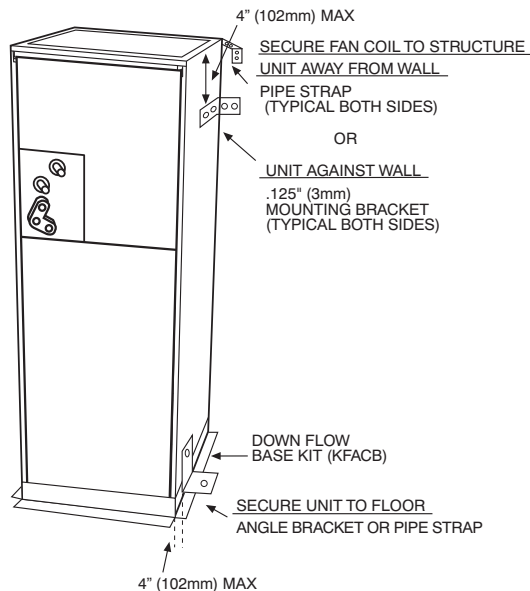

Fig. 8 – Mobile Home or Manufactured Housing Applications
- b. If fan coil is against wall, secure fan coil to wall stud using 1/8-in (3 mm) thick right-angle brackets. Attach brackets to fan coil using no. 10 self-tapping screws and to wall stud using 5/16-in. lag screws (Fig. 8).